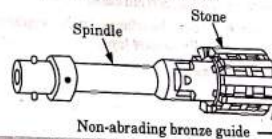

Fig. 3.18.1. Schematic illustration of a honing tool.
2. The honing tool consists of a set of aluminum-oxide or silicon-carbide bonded abrasives, called stones (Fig. 3.18.1).